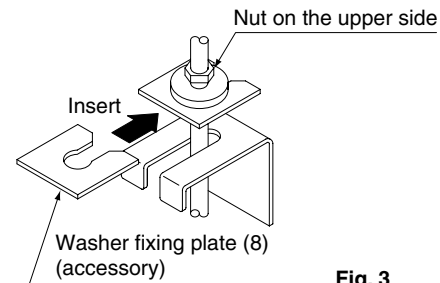

Fig. 3
- Connect the hanging brackets to the hanging bolts. Be sure to use and tighten the nut and washer (procured in the field) for each hanging bracket from both upper and lower sides of the hanging bracket. **(Refer to Fig. 3)** At that time, the fall of the washer for the hanging bracket can be prevented if the washing fixing plate (8) is used.